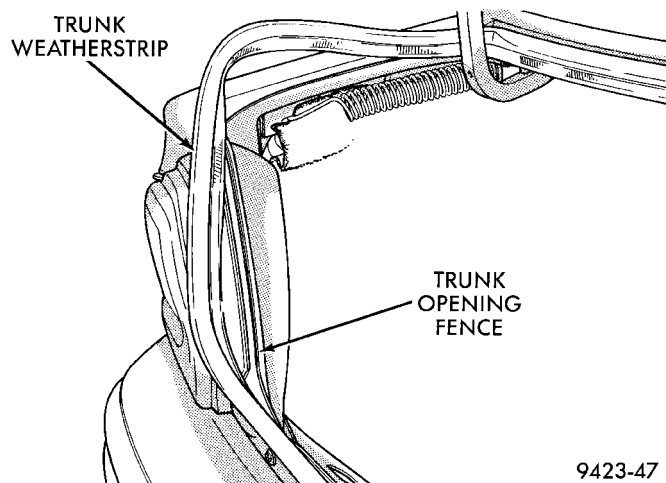

Fig. 74 Trunk Weatherstrip
- (1) Release trunk lid latch and open trunk lid.
- (2) Pull trunk lid weatherstrip form trunk opening fence (Fig. 74).
- (3) Separate weatherstrip from vehicle.